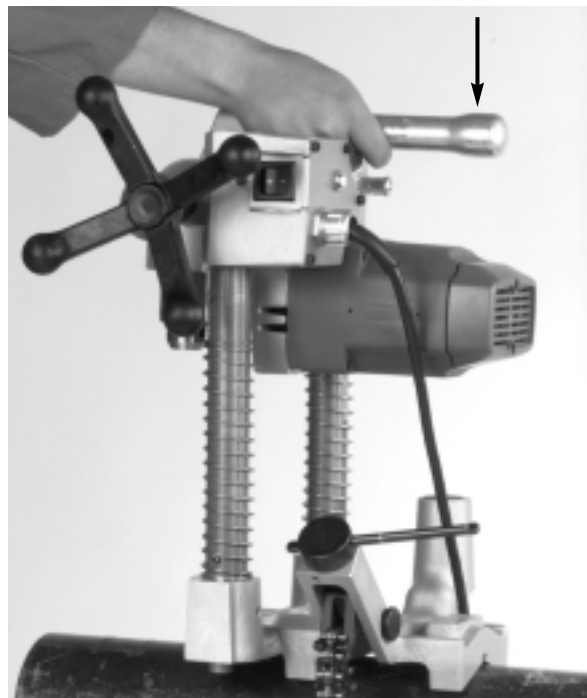

Figure 19 – Model HC-300 Putting the Motor and Base Assembly Together
11. Lift the HC-300 motor assembly and mount on the two posts by pushing firmly against the post springs until you hear a click sound, indicating that the plunger latch mechanism is properly engaged. (Figure 19)